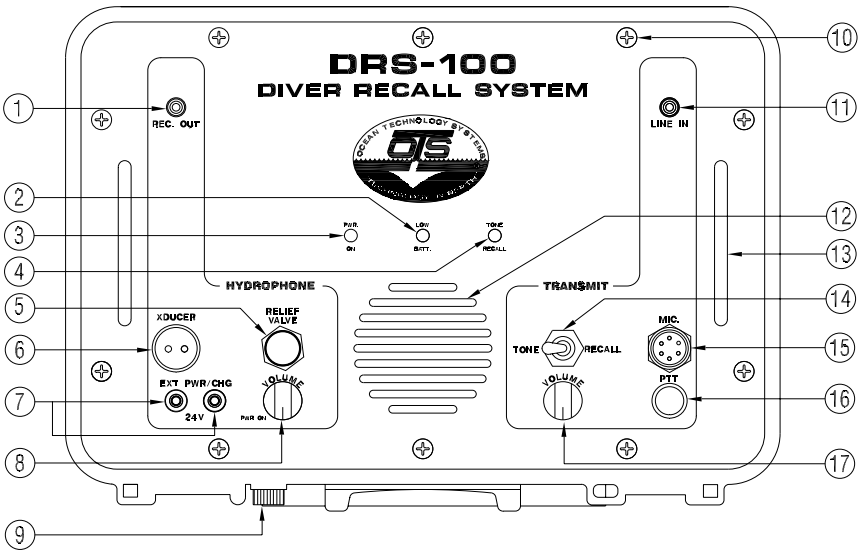

Figure 1. Features of the DRS-100B
Refer to Figure 1. Terms in all capital letters correspond to the labels on the DRS-100 panel.
3. Fully close the relief valve (Fig. 1, #5) on the panel by rotating it clockwise.
4. If you will use an external power source, connect its banana plugs to the “EXT PWR/CHG” jack (Fig. 1, #7) on the DRS-100 panel, being careful to observe polarity (match the red and black). Activate the external power source, if necessary, but leave the DRS-100 power off. If you will use the internal batteries, proceed to Section 3 (Batteries and Charging, p. 7) before continuing.
5. Remove the protective cover from the transducer receptacle (Fig. 1, #6).
**2.2.1 POWER AND VOLUME CONTROL:** To activate the unit’s power, rotate the speaker volume control (Fig. 1, #8) clockwise. The green “PWR ON” LED (Fig. 1, #3) should illuminate. To adjust the hydrophone listening volume, turn the speaker volume control (clockwise rotation increases the volume).
**2.2.2.1 Tone/Recall Mode:** For tone transmission, move the “TONE/RECALL” switch (Fig. 1, #14) either right for *intermittent tone* or left for *continuous tone*. The tone/recall LED (Fig. 1, #4) illuminates *green* when the DRS-100 is in intermittent tone mode and *red* when in continuous tone mode.
**2.2.2.2 Voice Communication:** For voice communication to divers or swimmers, set the transmitter volume (Fig. 1, #17) to about half volume. If you will use a hand-held microphone (e.g., the HSM-10) with a push-to-talk (PTT) switch, insert the microphone connector into the jack (Fig. 1, #15), depress the PTT button, and talk into the microphone. Otherwise, press and hold the PTT switch (Fig. 1, #16) and talk into the front-panel speaker (Fig. 1, #12). To increase the transmission volume, rotate the transmit volume control (Fig. 1, #17) clockwise. Release the PTT button when you have finished transmitting.
**2.2.2.3 External Audio:** To transmit audio from an external source, connect an RCA plug leading from the source to the DRS-100’s “line-in” jack (Fig. 1, #11).
**2.2.3 RECORDING:** To record audio signal received from the hydrophone or that you transmit into the water, insert a male RCA plug into the record-out jack (Fig. 1, #1). Connect the other end to your recorder’s microphone input.
When the low-battery LED (Fig. 1, #2) begins to flash red, the battery voltage has decreased to 20 volts. Although the DRS-100 can operate with as little as 12 volts, we recommend that you recharge the batteries (Section 3.1) as soon as possible after the LED starts to illuminate. If the batteries no longer hold a charge, replace them (Section 3.2).
2. Turn the relief valve (Fig. 1, #5) fully counterclockwise to open it.
3. Locate the 24-volt “EXT PWR/CHG” jack (Fig. 1, #7), and insert the plugs (+ red and – black) from the RCS-30 smart charger.
- **Batteries can excrete hydrogen gasses during the charging cycle. To minimize gas build-up, open the pressure relief valve (Fig. 1, #5 ) on the panel while recharging the batteries. Do not release the pressure relief valve and turn on the DRS-100 until a minimum of 15 minutes have elapsed after the charging cycle has been completed and the charger is disconnected from the front panel. *Failure to follow this procedure may result in damage to the unit or serious injuries due to an explosion!!!***
1. Remove the ten front-panel screws (Fig. 1, #10).
2. Gently remove the control panel by pulling on the handles (Fig. 1, #13).